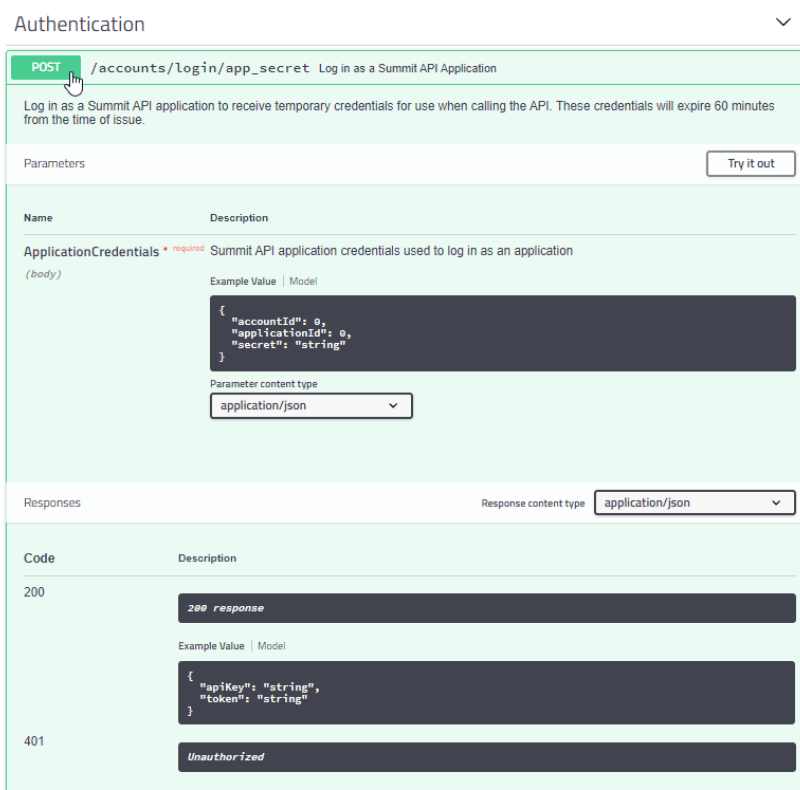

Figure 33
- Any application with access to the internet can use the Summit API. The application must authenticate with the Summit API using the Account ID, Application ID, and APP Secret. On the Summit Developers landing page, scroll down and click on the "POST" button next to the Authentication endpoint `"/accounts/login/app_secret"` as shown in *Figure 33*.